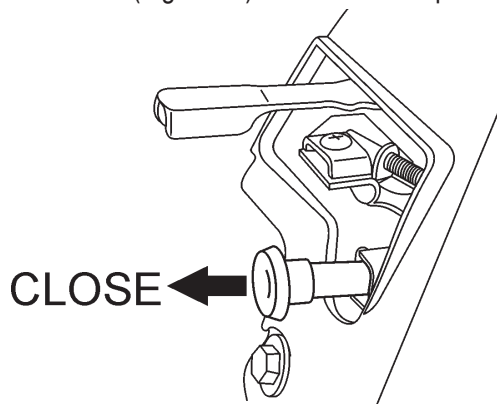

Figure 26. Choke Lever (Closed Position)
7. If the engine has started, slowly return the choke lever (Figure 26) to the **CLOSED** position. If the engine has not started repeat steps 1 through 6.